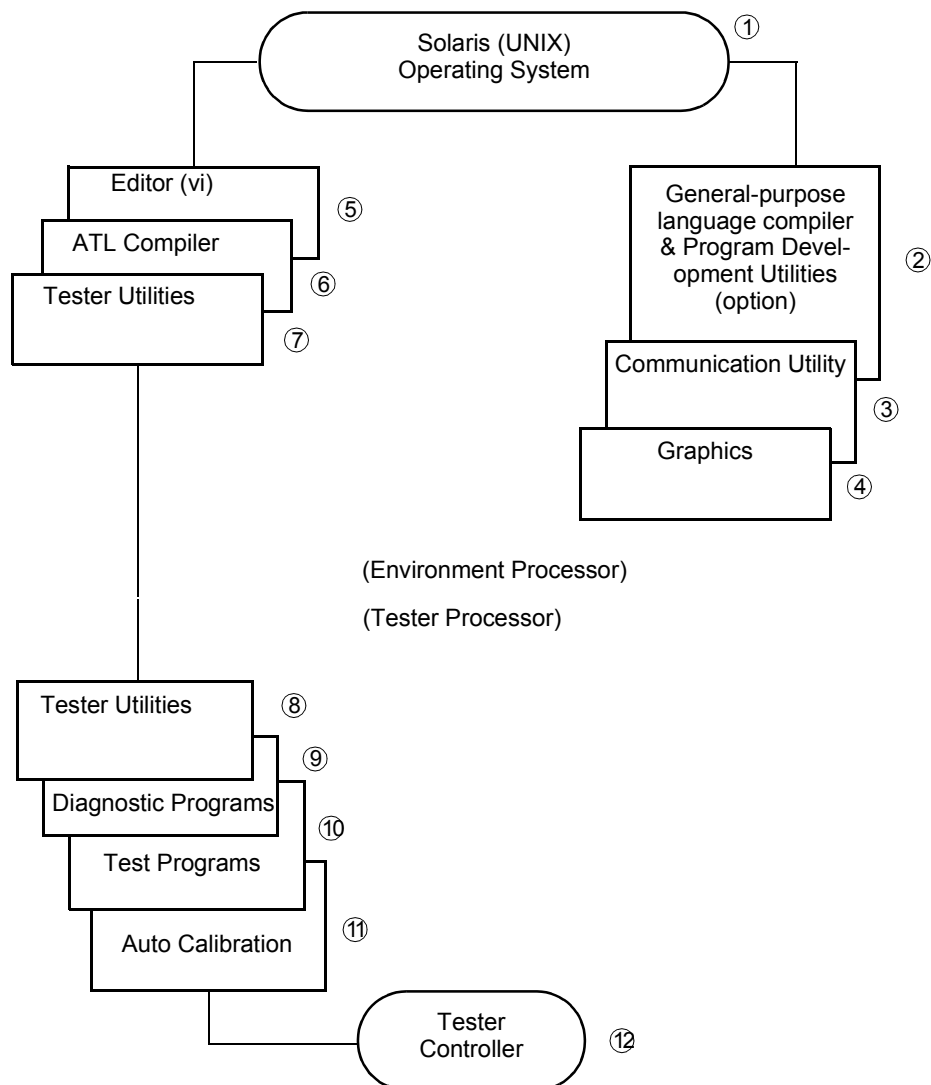

Figure 4-1 ASX/U-51 Structure
Figure 4-1 shows the ASX/U-51 configuration that consists of the following three major software groups:
- Solaris (UNIX) software group (① to ④ of Figure 4-1)
- Offline software group (⑤ and ⑥ of Figure 4-1) for creation and editing of test programs
- Online software group (⑦ to ⑫ of Figure 4-1) consisting of the utilities that use tester resources and the tester controller and others that execute the test program.